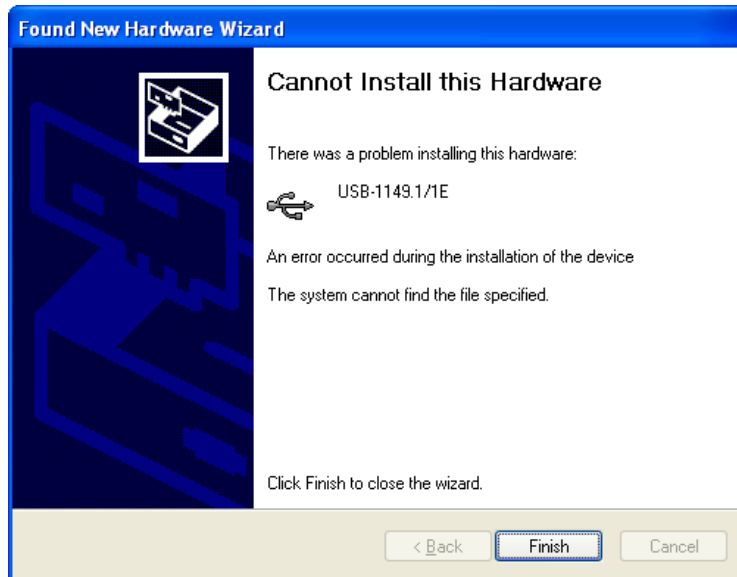

Figure 2-4. Installation Successfully Completed (WinXP)
7. After the necessary files are copied to the system, the following dialog box, Figure 2-4, will pop up indicating that the device driver is successfully installed.